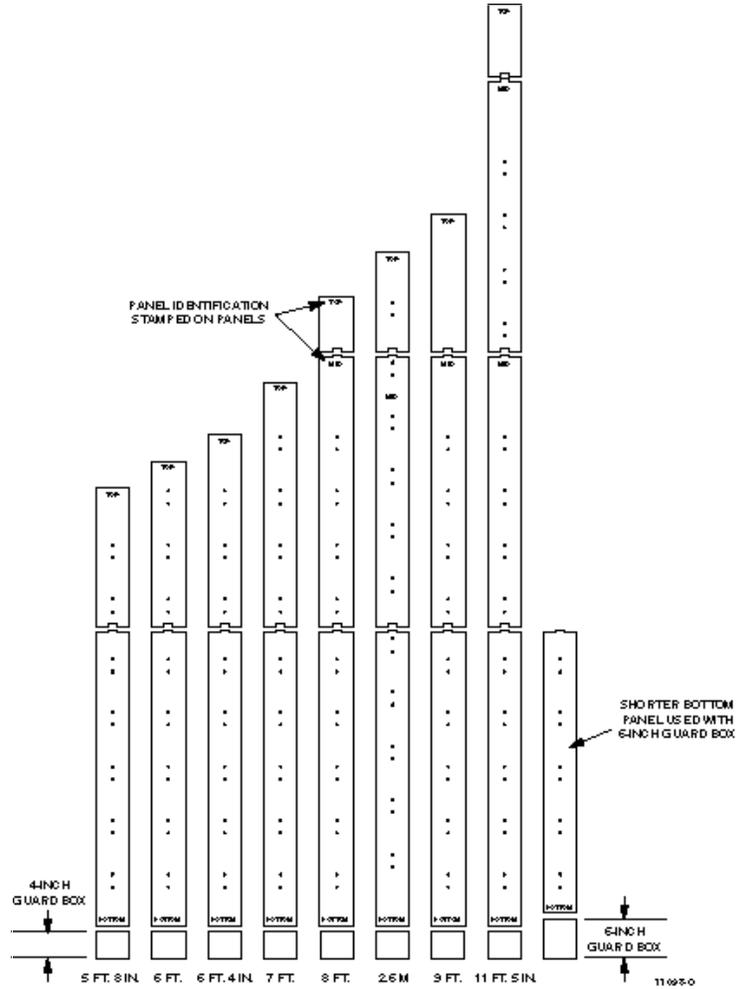

Figure 9-11. Panel Section Combinations for Different Frame Heights
9.7.31 The interbay fiber management panel (IMP) is used in a fiber application only. It may be installed between two racks, or between a rack and an end guard. The kit includes a filler guard box, which should be already installed (if not, refer to Section 9.7.21 above). Different heights are accommodated using various combinations of panel sections (Figure 9-11).